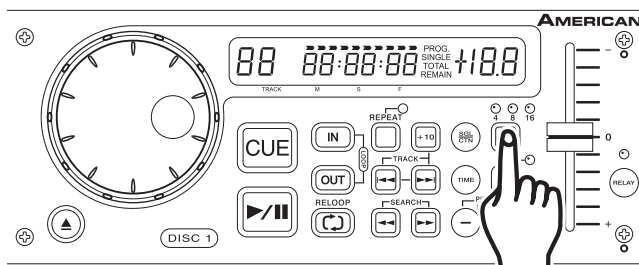

Figure 10
**Using the Pitch Slider Percentage Selector (8):** You may choose a pitch operating range at any time. To change the operating range be sure the pitch function is turned on, see figure 10. The pitch percentage can be changed between +/-4%, +/-8%, and +/-16%. 4% will allow the least amount of pitch manipulation and 16% will allow the most amount of pitch manipulation. To adjust the different values, press the PITCH ON/OFF BUTTON (13) and Tap on the % BUTTON (8) until your desired value is reached. The L.E.D. of the % BUTTON (8); glowing yellow for 4%, glowing green for 8%, or glowing red for 16%.
**Activating the Pitch Slider (3):** To activate the PITCH SLIDER (3), turn the pitch function on. Press the PITCH BUTTON (13) to turn on the pitch function, when the pitch function is activated a LED will begin to glow. If the pitch function is not activated neither the PITCH SLIDER (3) nor the PITCH BEND BUTTONS (14) will function.